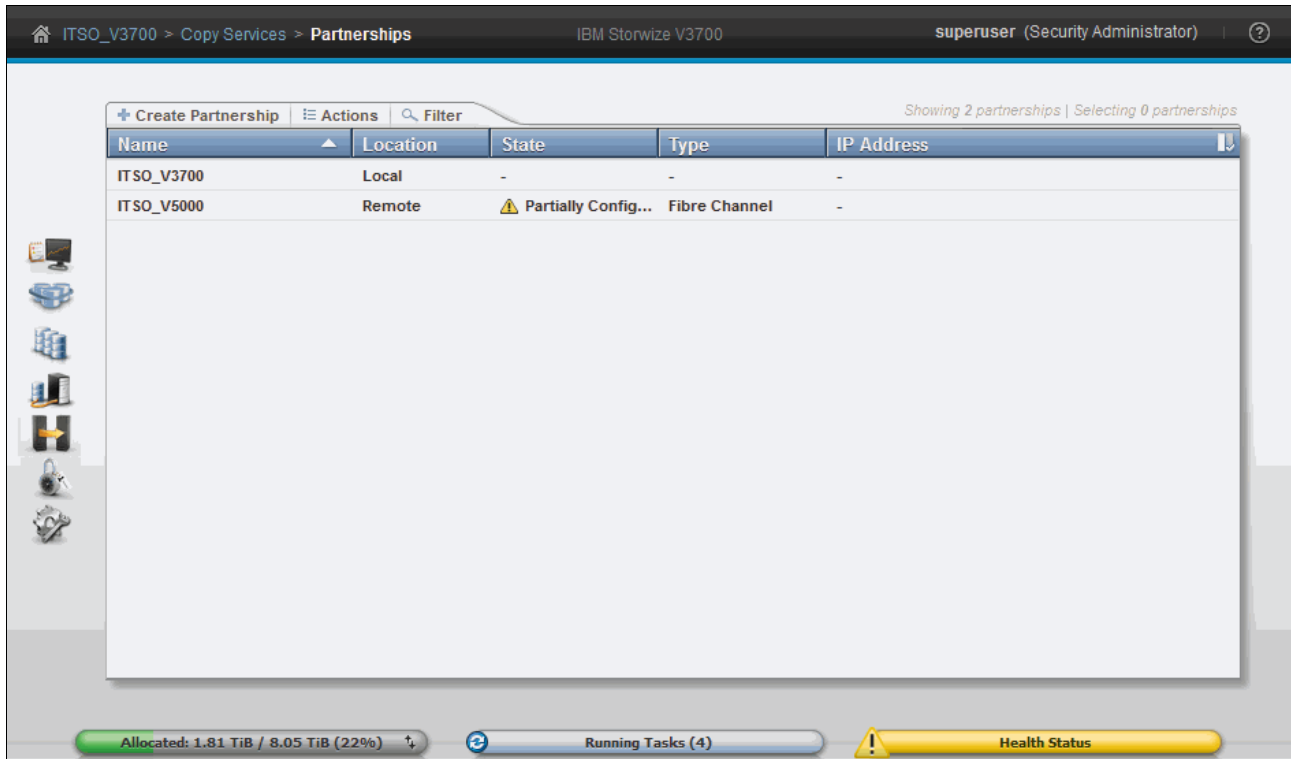

Figure 10-89 Partially configured partnership
8. When it finishes, click **Close** and the partnership is complete on this system. It is listed in the Partnership window, but is displayed with an alert and the system health status turns yellow, as shown in Figure 10-89. This is normal, and happens because only one half of the partnership currently exists.